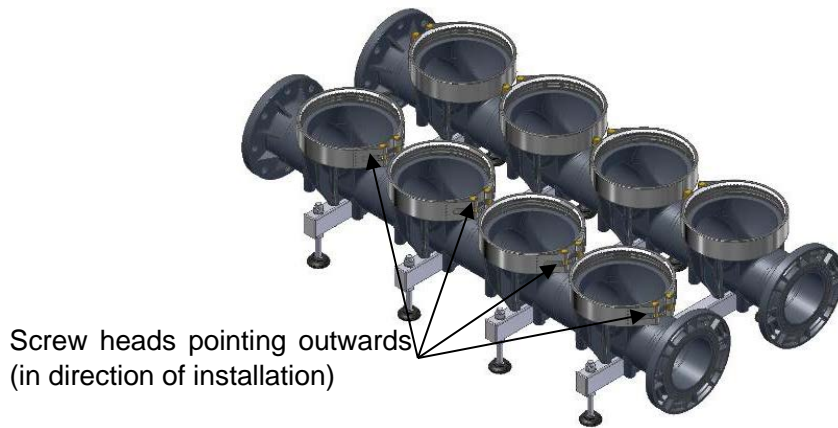
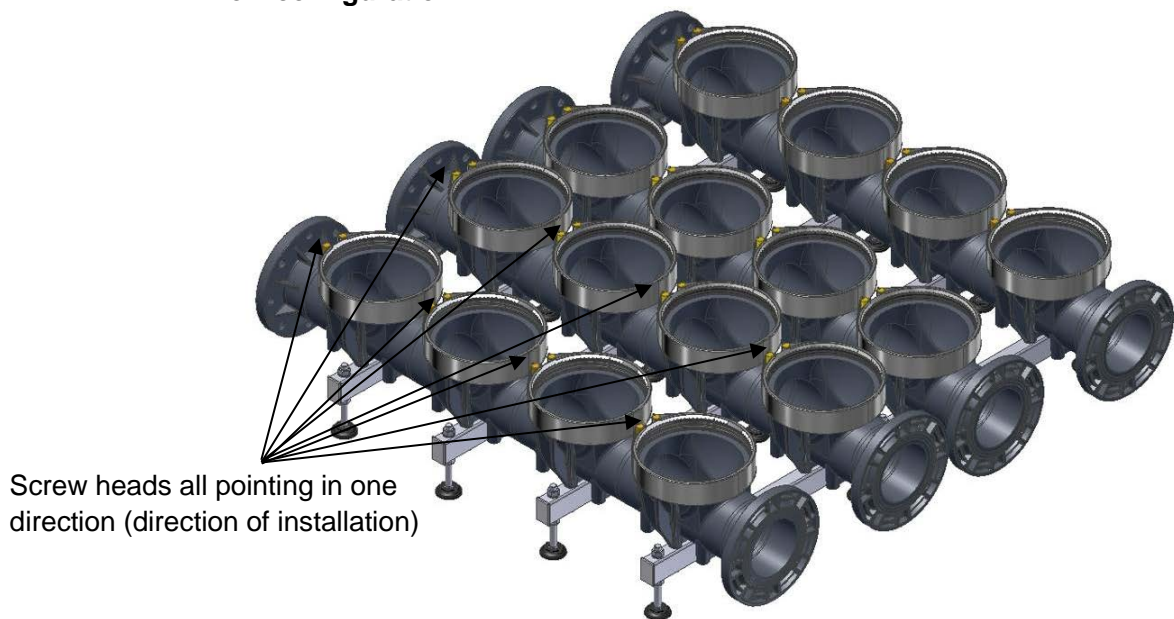

Figure 10-7: Alignment of screw connection of inge® Ultra S 250 pipe couplings in two-row configuration
Figure 10-8: Alignment of screw connection of inge® Ultra S 250 pipe couplings in four-row configuration
3. Next, fit the inge® Ultra S 250 pipe couplings over the module discharge points on the bottom feed/drain headers. Ensure that the screws on the pipe couplings (8 mm Allen screws) are easily accessible for assembly and dismantling of the modules. To do this, align the screw heads of the pipe couplings with the mounting side in each case. For a two-row arrangement with two freely accessible mounting sides, the pipe couplings can be arranged offset from each other (see Figure 10-7). If only one side is easily accessible for installation, or if each of the two rows is combined into a four-row configuration after the modules are installed, then the screw heads on the pipe couplings should all point in the same direction on all the rows. This is the only way of ensuring that it will be possible to remove the screws at a later point in time (Figure 10-8).